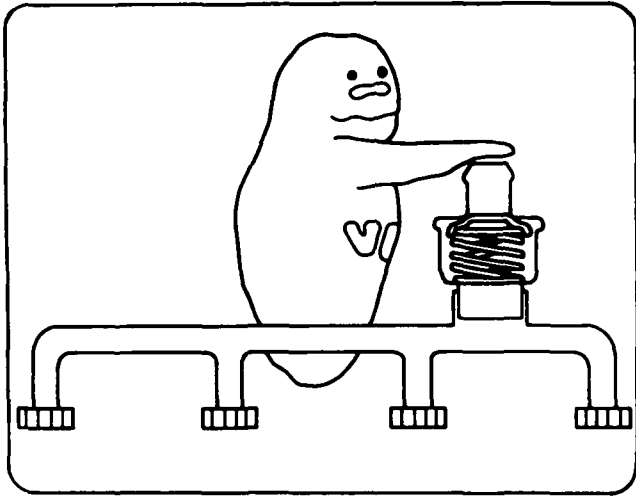

Figure 6-15
6. A check valve is shown being tested in Figure 6-15. List the basic steps necessary to perform this test.